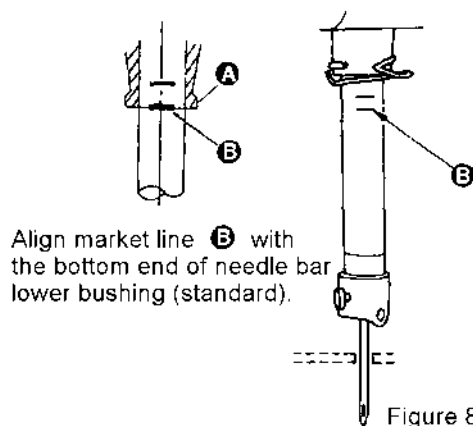

Figure 8.1
- Enter the Position Test in the AMF Reece Controller (as described in section 5) and select the Down position. Check the needle bar stops in the position shown in figure 8.1. If any adjustment is required move **needle down sensing ring** (figure 8.1) until the correct position is achieved. Exit the position test.